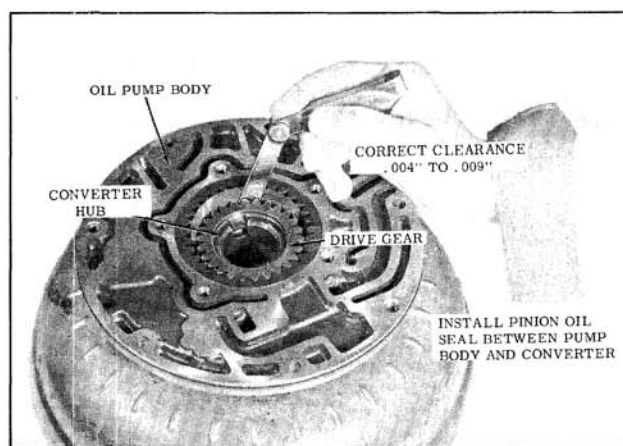

Fig. 6-418 Checking Clearance
- a. Check clearance between oil pump drive gear and crescent. The clearance allowed is .004" to .009". (Fig. 6-418)